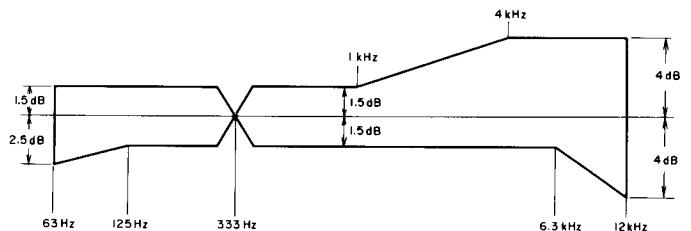

Fig. 12-13 Frequency response
3. Change the tape selector and DOLBY NR switch positions (See Fig. 12-13, 14), and check that the frequency response is satisfactory.